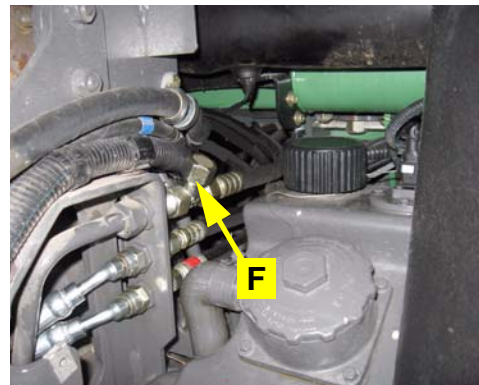

Figure 8d: Tank location
- d. Disconnect the rubber tank hose from the steel line and install run-tee fitting **F** between the steel and rubber lines (Figure 8d).